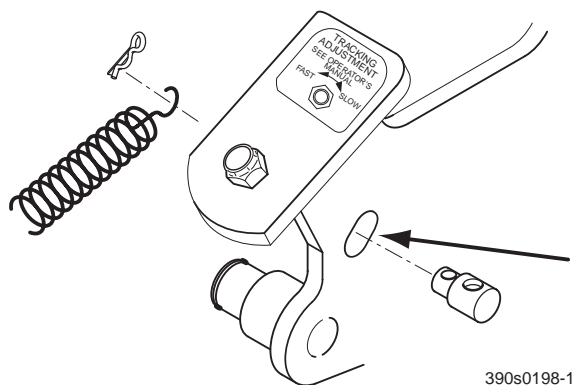

Figure 10. Control Rod Adjustment
3. Reinstall the speed control spring onto the swivel. Install the hair pin onto the swivel. (See Figure 10).